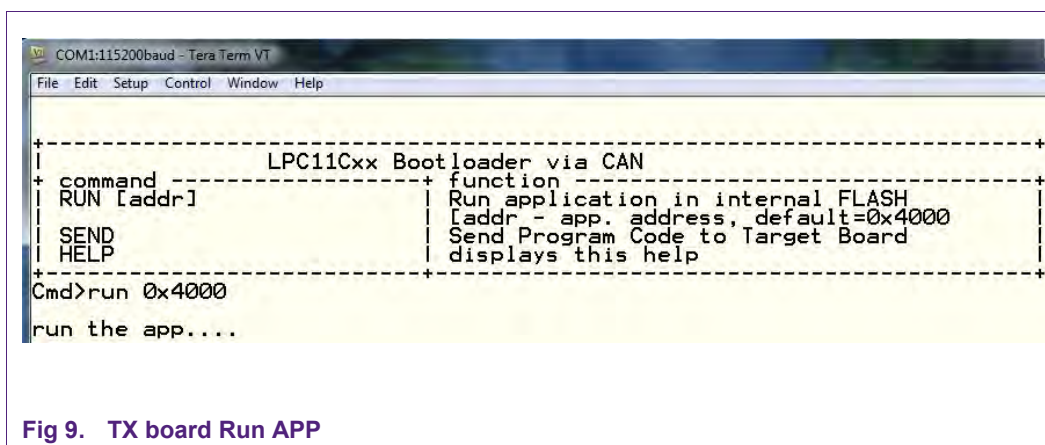

Fig 9. TX board Run APP
- 4) Enter "run 0x4000" command in the TX board terminal, and LED0 starts blinking, see Fig 9.